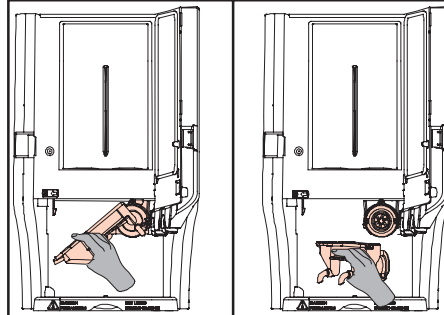

Fig. 39 Remove trough
9. Rotate this part further downwards, until you can pull the complete trough out of the right-hand mounting towards you (fig. 39).